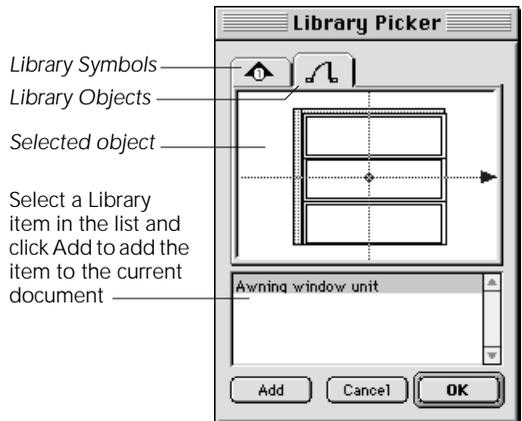

Fig. 92 Adding Library items to a document
4. Use the Library Picker to add items one at a time to the current document (*figure 92*).